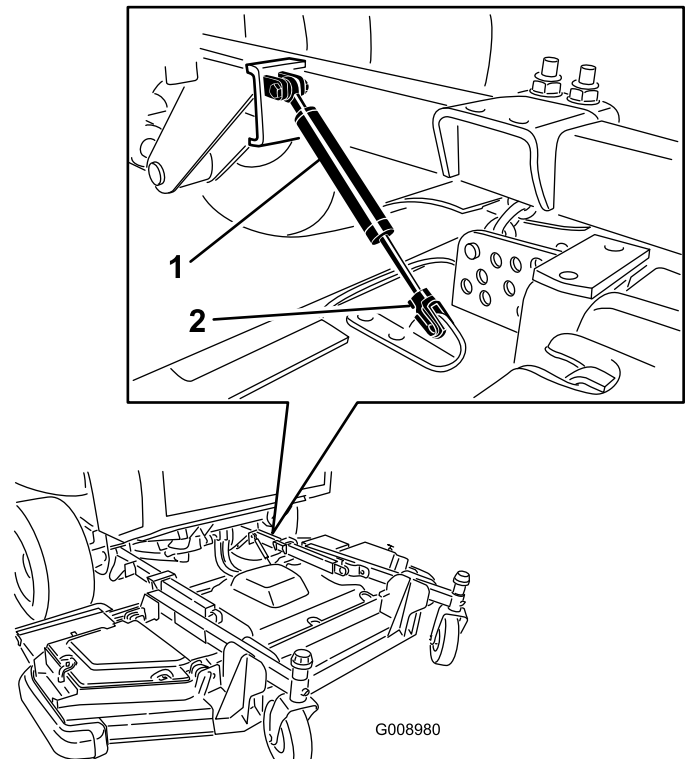

Figure 130
3. Remove the retainer clip and disconnect the damper assembly from the mower deck (Figure 130).